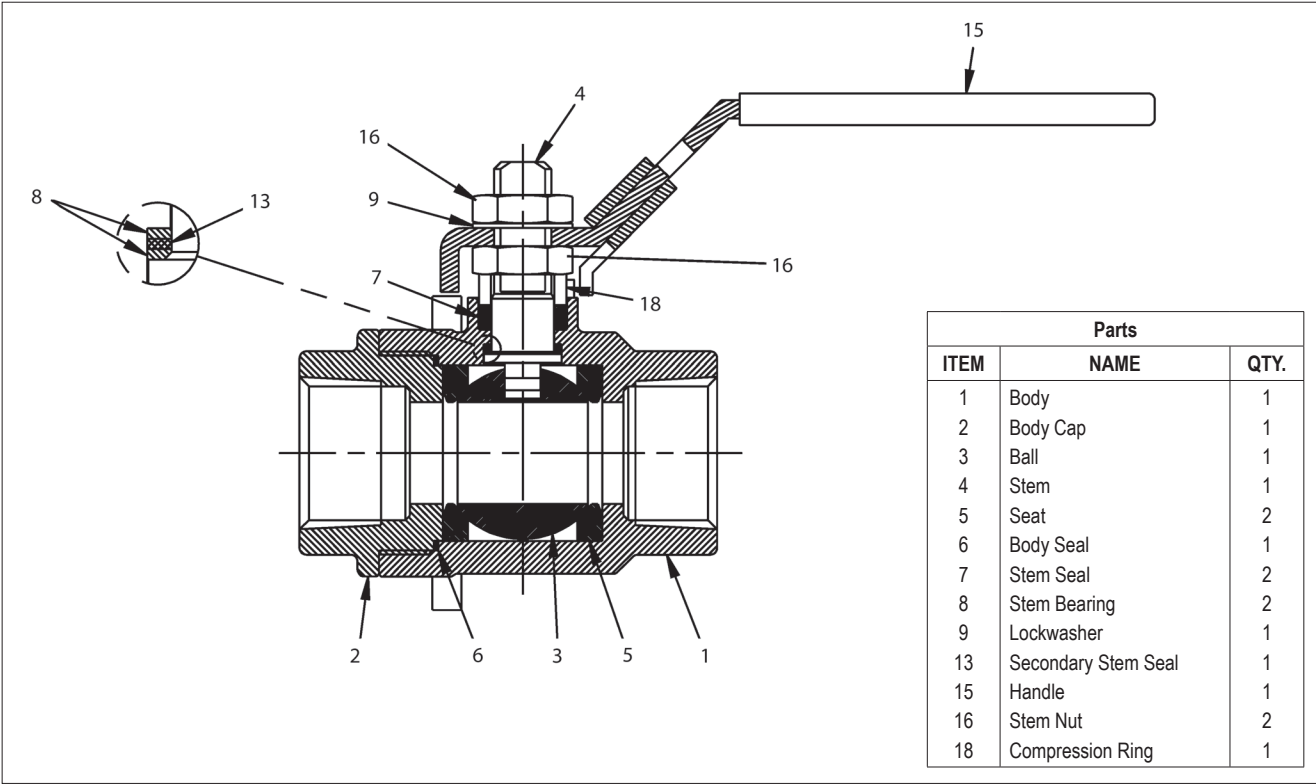

Figure 2.
1. Remove the valve. Then remove the upper stem nut (16), lockwasher (9), handle (15), and lower stem nut (16). (See **Figure 2**)
2. Remove the compression ring (18).
3. Unscrew and remove the body cap (2) and body seal (6). Heat may be required.
4. If the ball (3) and seats (5) do not fall from the body with the ball in the fully closed position, use a piece of wood or some other soft material to gently tap the ball (from the end opposite the body cap). This will unseat these parts without damaging the ball.
5. Press the stem (4) from the top into the valve body and remove it through the body cap end of the body.
7. Using a pointed instrument, pry out and discard the old stem seals (7), stem bearings (8), and FIRE-TITE bearing (13), if applicable. Be very careful not to scratch any sealing surfaces in the valve body (surfaces on which seats and seals rest).
1. Clamping valve body (1) securely in a vise, drop in one seat (5) with the flat surface on the bottom. (See **Figure 2**)
2. Insert from the inside a stem bearing (8), a FIRE-TITE seal (13), and another stem bearing (8) into the lower stem bore.
3. Insert the stem (4) through the open end of the body (1), being careful not to scratch the stem bearings and stem bearing surfaces. Press it gently up into the stem hole.
4. Holding the stem bearing in place from inside the valve, install two stem seals (7), the compression ring (18), and thread on one of the stem nuts (16) until the stem starts to turn.
5. Place a wrench through the body on the bottom of the stem blade to hold the stem stationary. Place another wrench on the stem nut (16), and turn the nut down until the seals bottom and the stem comes snugly into place. Tighten the stem nut (16) until snug, plus an additional 1/4-1/2 turn.
6. Align the stem blade inside the valve body (1) with the ball (3). Insert the ball (3) and rotate the stem (4) to the ball fully closed position.
7. Insert second seat (5) into the body (1) so that the sealing surface of the seat is towards the ball. Insert the body seal (6).
8. Apply Loctite® 272 or equivalent, one bead 360° around the body cap (2) covering a minimum of two threads.
9. Insert the body cap (2), screw it down and tighten to the required torque, (**See Table 1 for Body Cap Torque specifications**).